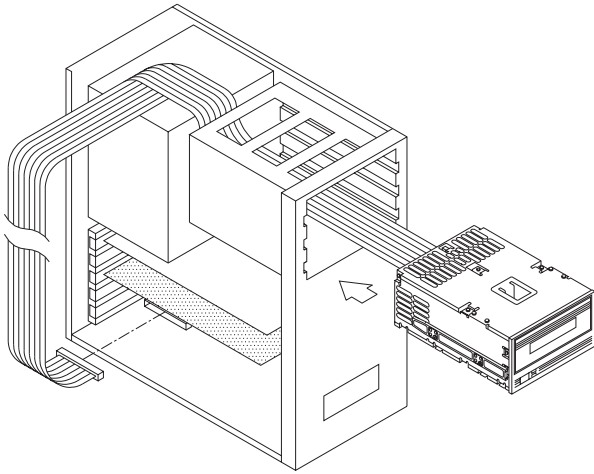

Figure 7 Inserting the drive into the drive bay and connecting the SCSI cable to the SCSI
5. Connect the SCSI cable to your SCSI adapter card (see Figure 7).